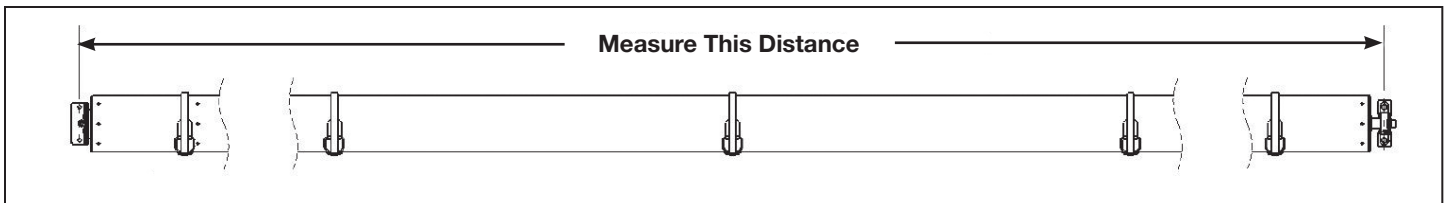

Figure 3.
5. Now measure from the center of the bolt holes of motor bracket to the center of the bolt holes of the bearing case and mark a center line on the roller. See Figure 3.